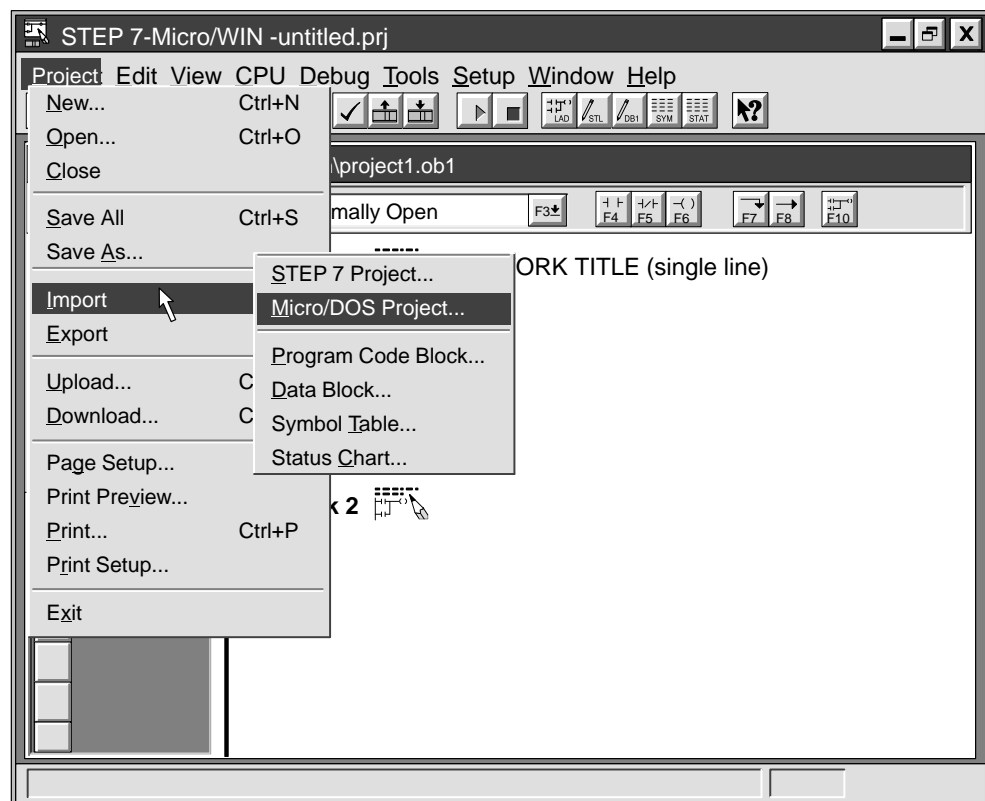

Figure E-2 Importing a STEP 7-Micro/DOS File
2. Select the menu command **Project ► Import ► Micro/DOS Project...**, as shown in Figure E-2.